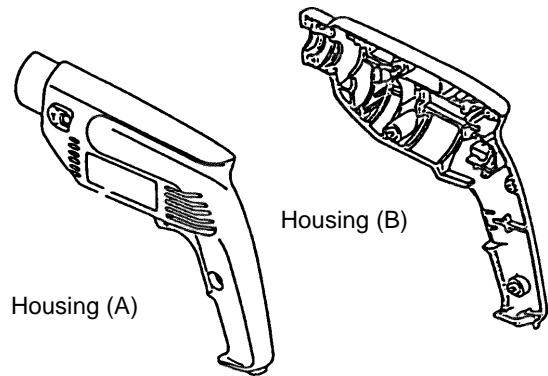

Fig. 3
(2) Removal of Housing (B): (See Fig. 3)